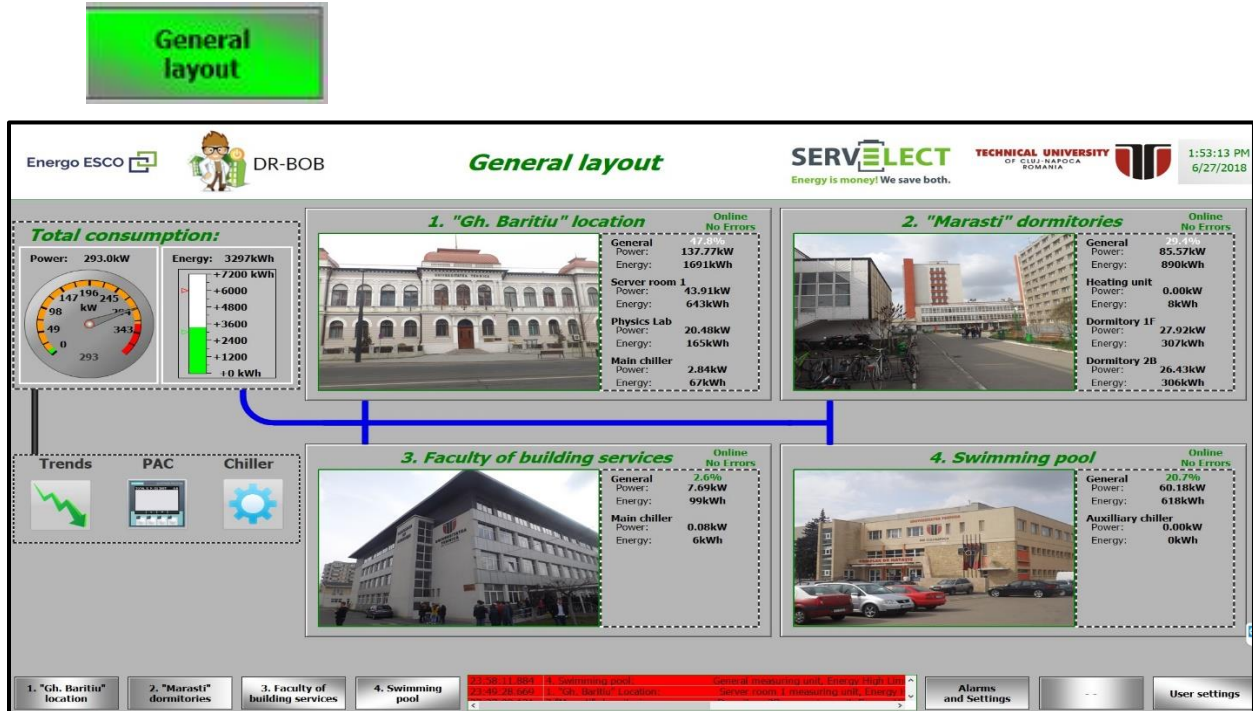

Fig.16. Pagina de control (de start)
4) General layout (Aspect general) → revine la fereastra de pornire din Fig.16.